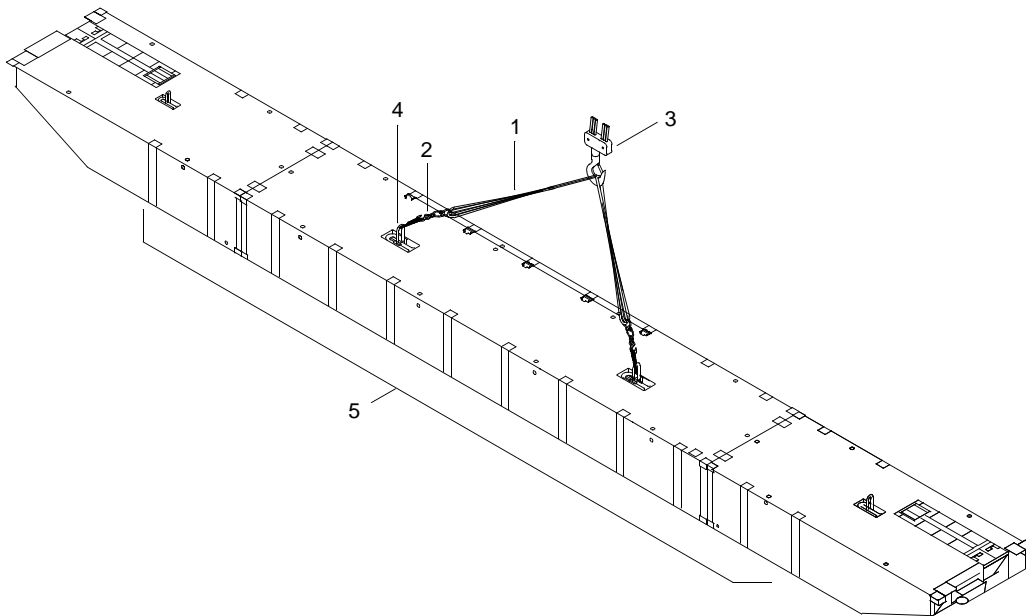

Figure 12. Lifting a Module String
5. Attach two 53,000 lb slings (figure 12, item 1) and 36,000 lb adjustable chain slings (figure 12, item 2) from crane (figure 12, item 3) to padeye shackles (figure 12, item 4) on module string (figure 12, item 5).
6. Using slings (figure 12, items 1 and 2) and crane (figure 12, item 3), lift module string (figure 12, item 5) and position for assembly.
7. Remove 36,000 lb adjustable chain slings (figure 12, item 1) from padeye shackles (figure 12, item 4) on module string (figure 12, item 5).
8. Remove 53,000 lb slings (figure 12, item 1) from crane (figure 12, item 3).